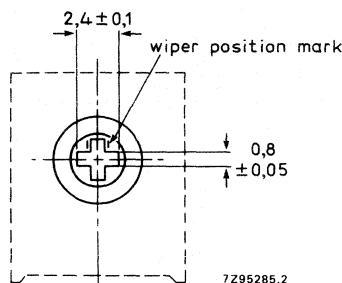

Fig. 3 Cross slot, non-insulated wiper for vertical and horizontal versions; straight pins only.
- For details of available slots (cross, hexagonal, insulated or non-insulated wiper), see Figs 3, 4 and 5.